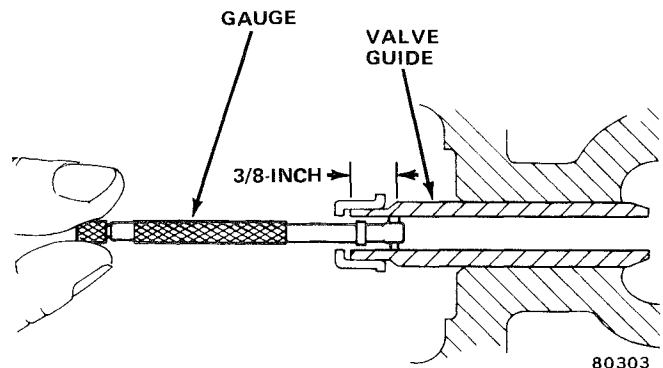

Fig. 1B-10 Valve Stem-to-Guide Clearance
(1) Remove valve from head and clean valve guide with solvent and bristle brush.
(2) Insert telescoping gauge into valve guide approximately 3/8-inch from valve spring side of head (fig. 1B-10) with contacts crosswise to cylinder head. Measure telescoping gauge with micrometer.
(3) Repeat measurement with contacts lengthwise to cylinder head.
(4) Compare crosswise to lengthwise readings to determine out-of-roundness. If measurements differ by more than 0.0025-inch, ream guide to accommodate oversize valve.
(5) Compare valve guide diameter with diameter listed in Specifications. If measurement differs more than 0.003-inch, ream guide to accommodate oversize valve.